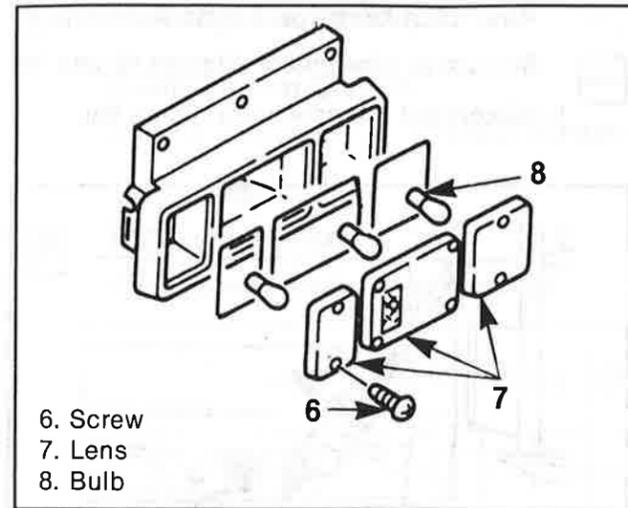

Figure 100. Rear Combination Light
Disassembly (Figure 100)
**Reassembly (Figure 100)**